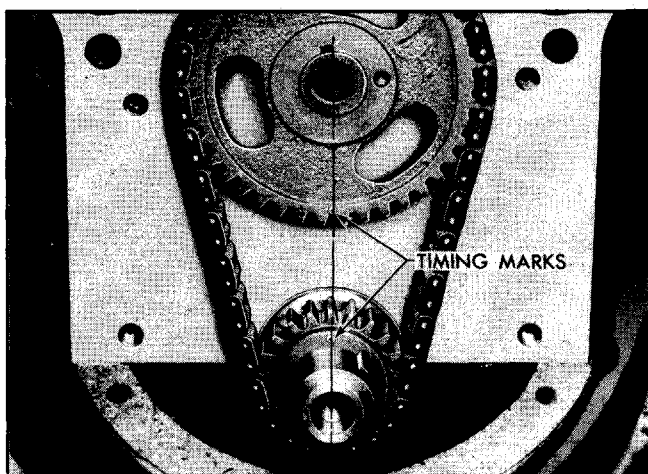
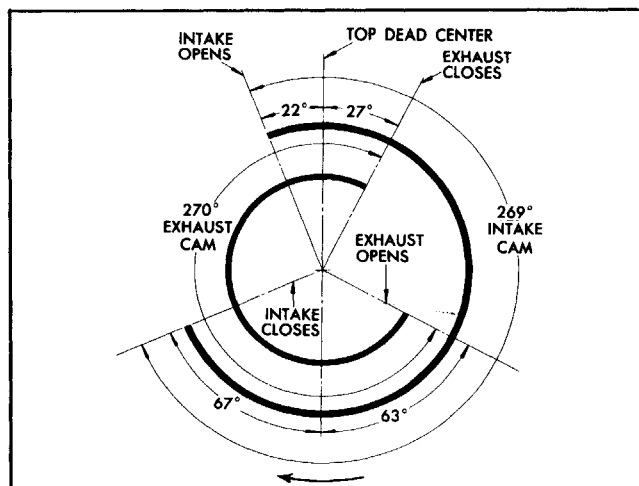

Fig. 6-26 Valve Timing Marks
Fig. 6-27 Valve Timing Diagram
3. Align timing marks to simplify proper positioning of sprockets during reassembly (Fig. 6-26).
5. Install new timing chain and/or sprockets making sure marks on timing sprockets are aligned exactly on a straight line passing through the shaft centers (Fig. 6-26). Camshaft should extend through sprocket so that hole in fuel pump eccentric will locate on shaft. Valve timing diagram for the engine is shown in Fig. 6-27.
14. Install timing chain and sprockets, making sure marks on timing sprockets are aligned exactly on a straight line passing through the shaft centers (Fig. 6-26).